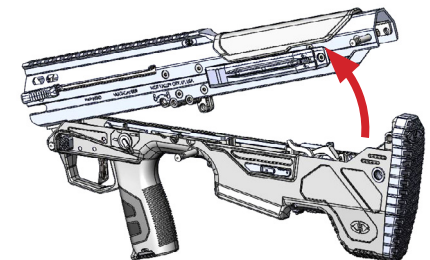

Fig. a-5 25
- Press the captured rear and middle takedown pins out from the right to the left and tilt the rear of the upper receiver up. (Fig. a-5)
Note: Ensure the caliber on the bolt head matches the barrel you have installed. (page 12, Fig. a-5)